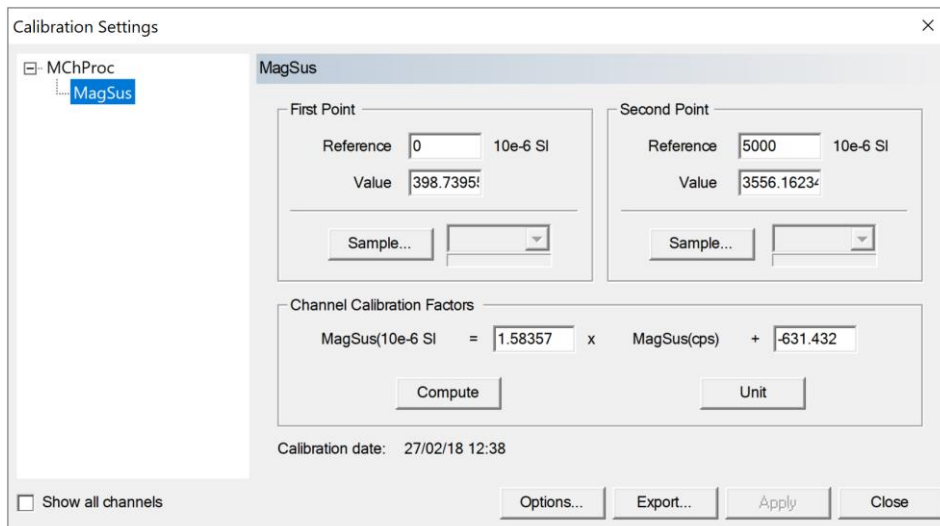

Figure 4-16 Calibration Settings window
4. Enter **0** as the **Reference** for the **First Point** in the **Calibration Settings** window (**Figure 4-16**). Click **Sample....** Wait until the bar loads. After loading, a new value will appear in the **Value** for the **First Point**.